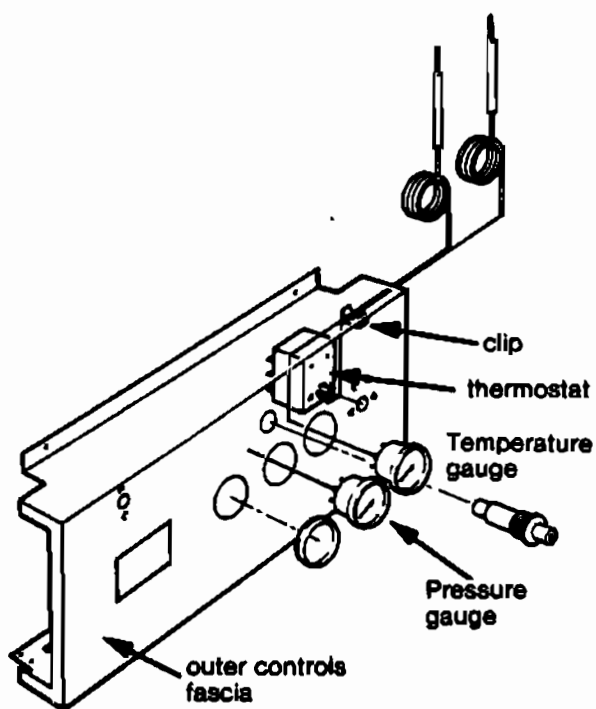

Fig. 48
8.20.2 Pressure gauge (fig 48) Part no. 4472 Fig 49
8.20.3 Temperature gauge (fig 48) Part no. 4441 Fig no 49